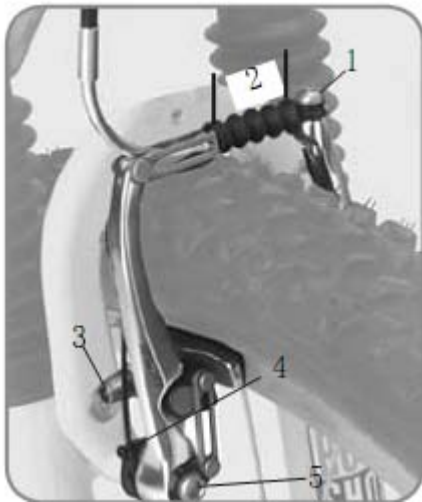
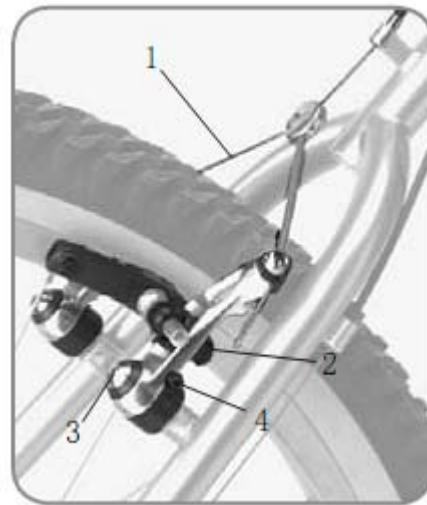

Figure 7- Direct pull brake
Figure 8- Cantilever brake
- For most direct-pull (Figure 7), or cantilever (Figure 8) systems, the barrel adjuster is